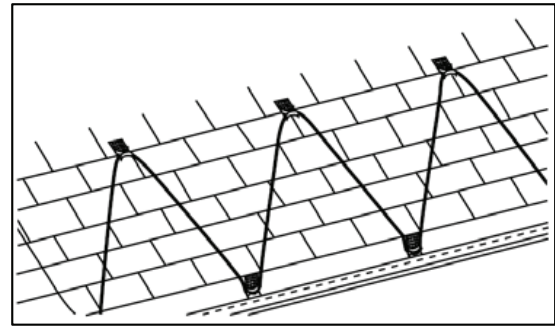

Figure 1.
2. Determine deicing cable layout and clip placement according to the Britech Roof-Gutter-Drain Installation Manual. See Figure 1.